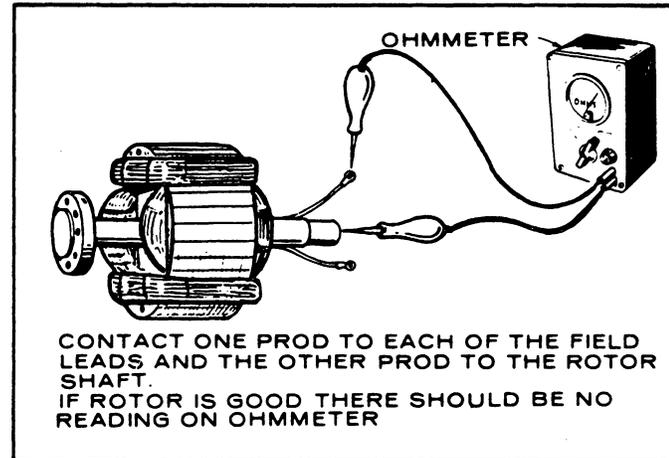

FIGURE 18. TESTING ROTOR FOR GROUNDS
**Testing For Grounds:** remove F1 and F2 rotor leads from heat sink assembly. Check for grounds between each field lead and rotor shaft. Refer to Figure 18.